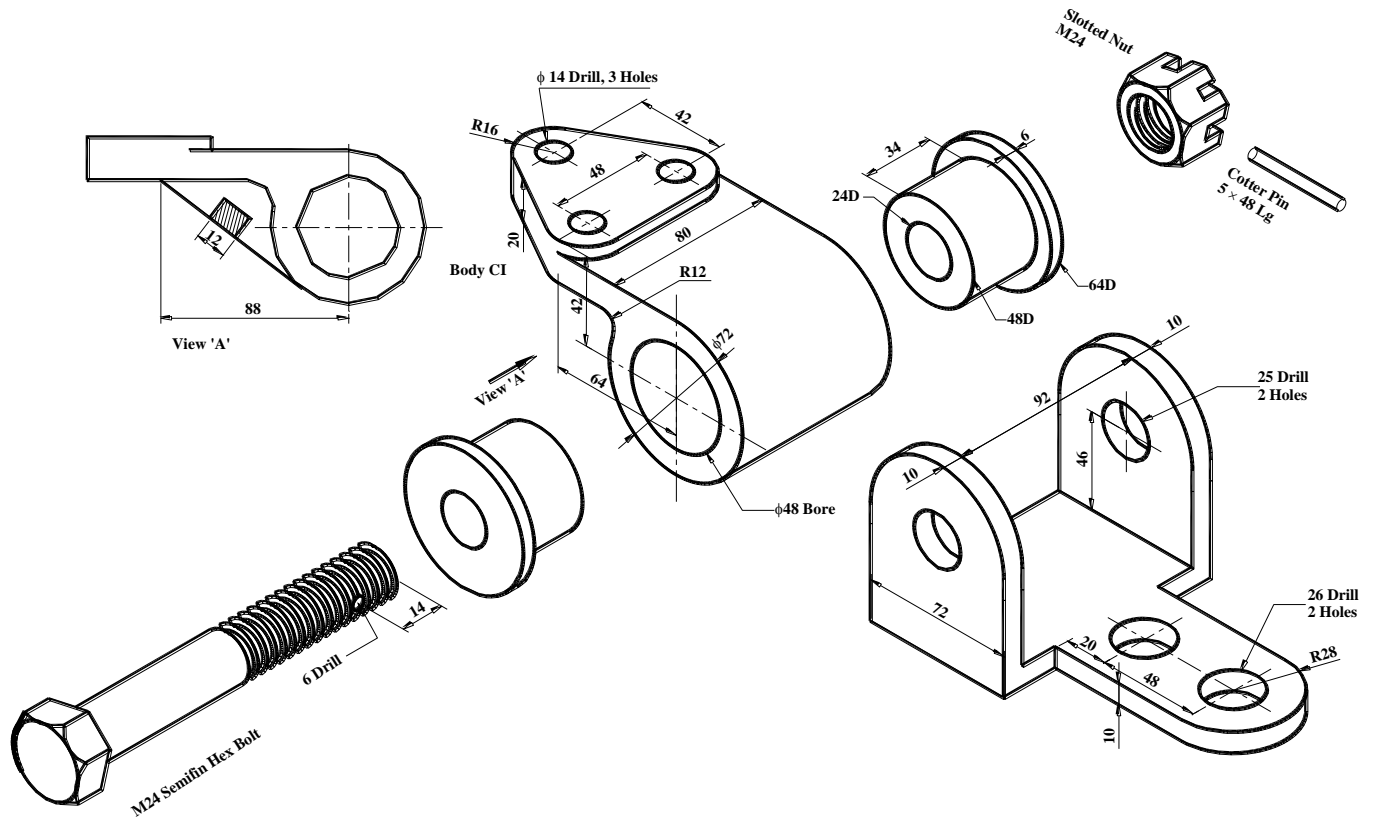

FIGURE T9.3: ANTIVIBRATION MOUNT
3. 3. FIGURE T9.3 SHOWS THE DETAIL DRAWING OF AN ANTIVIBRATION MOUNT. ASSEMBLE THE PARTS AND DRAW THE SECTIONAL FRONT VIEW AND THE SIDE VIEW.